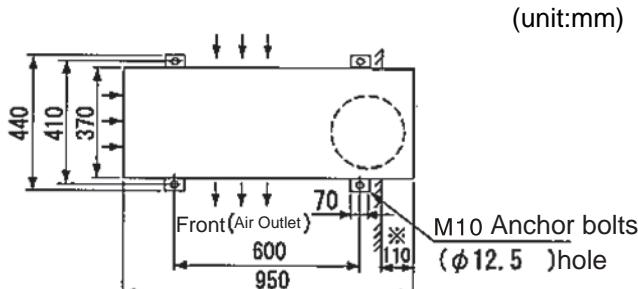

Fig. 4.3 Position of Anchor Bolts
(2) When installing the outdoor unit, fix the unit by anchor bolts. Refer to Fig. 4.3